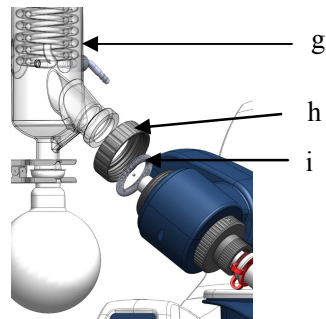
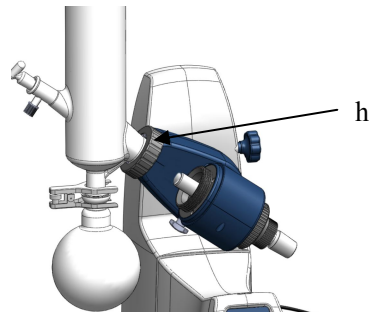

Figure 12
Figure 13
- Installing condenser (g) (Figure 12 and Figure 13).